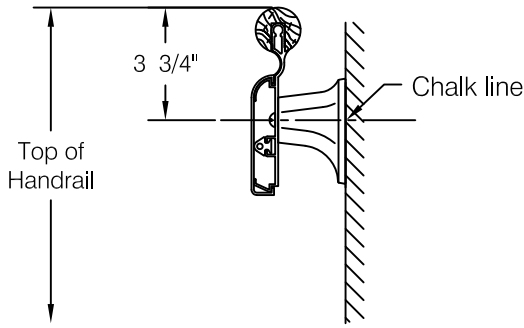

fig 1
- Step 1:** Determine top of handrail height and snap a chalk line 3 3/4" below for centerline of mounting hardware, see **fig 1**.